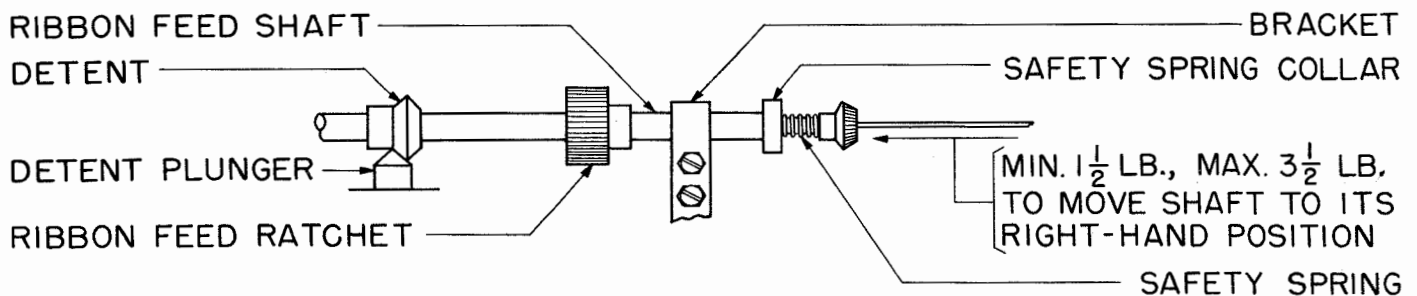

Figure 20
To Gauge: Apply the push end of the scale to the upper end of the right-hand ribbon-reverse pawl and push vertically downward. Check the left safety-spring with the ribbon-feed shaft in its right-hand position and the scale applied to the left-hand ribbon-reverse pawl. See Figure 20 for location of spring.
2.31 Ribbon-feed-shaft Detent-plunger Spring: (Remove the ribbon-feed pawl and check pawl.) With the ribbon-feed shaft in its left-hand position, it shall require a push as indicated in Figure 20 to move the ribbon-feed shaft to its right-hand position.